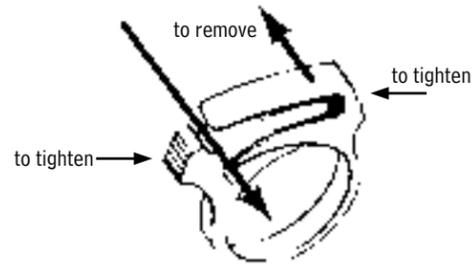

Figure 2
1. Remove nylon clamp from the breathing tube (see Figure 2). Do not remove foam from inside the breathing tube used with CC20 Series Airline Respirators. The foam helps to reduce the noise level of incoming air.